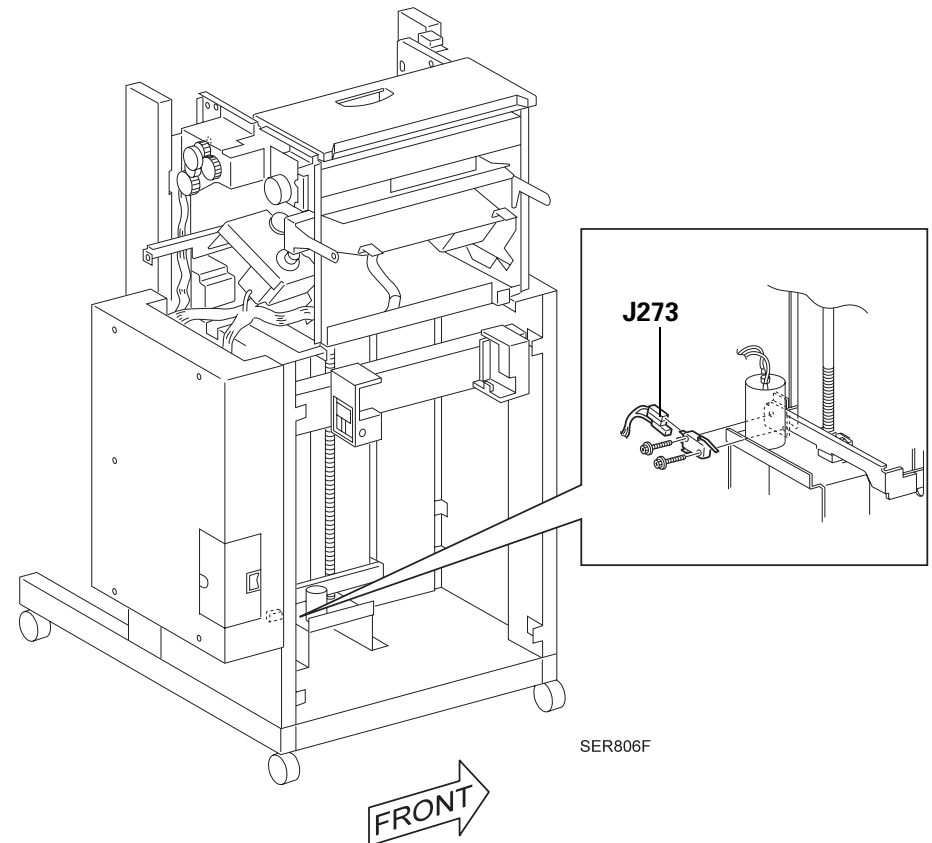

Figure 3-17. Stacker Lower Limit Switch
1. Place the Stacker Lower Limit Switch as shown in the Figure 3-17 and install the switch to the HCS frame.